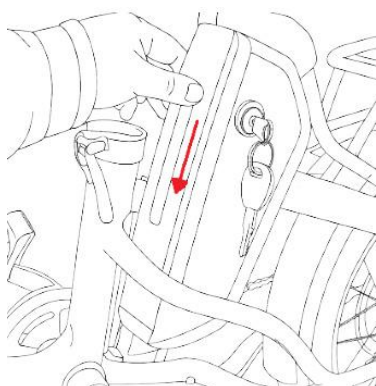

Fig. 12
1. Align the battery with the mounting slot. (Fig. 12)